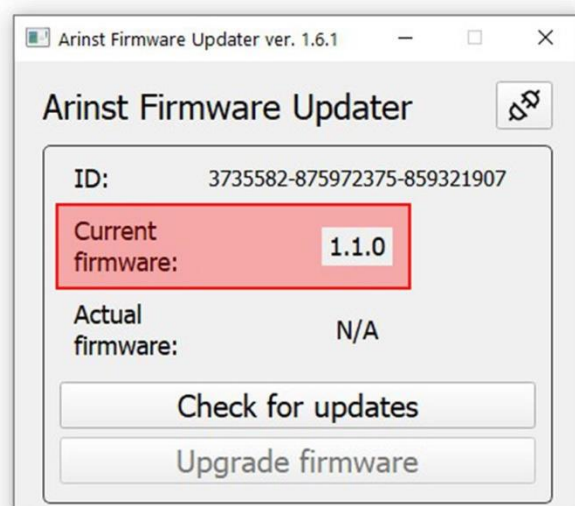

Figure A2.11 – Display of the device firmware version
2.10. After downloading and installing the new firmware, the latest installed software version of the device will be displayed in the loader application (Figure A2.11).